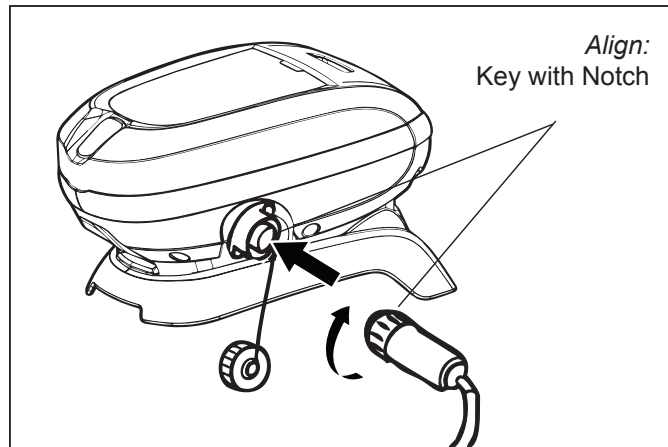

Figure 3. Connect Floating Cable
3. Align the notch in the floating cable connector with the key in the control unit, engage then turn clockwise to tighten (Figure 3).